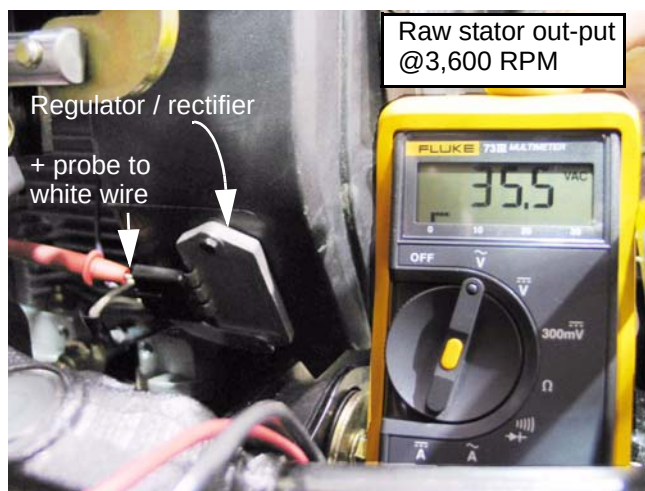

Figure 7.27
1. First check the raw A.C. Voltage out-put from the stator. It will be necessary to compare it to the engine manufacturer's specified out-put. This varies from model to model. See Figure 7.27.